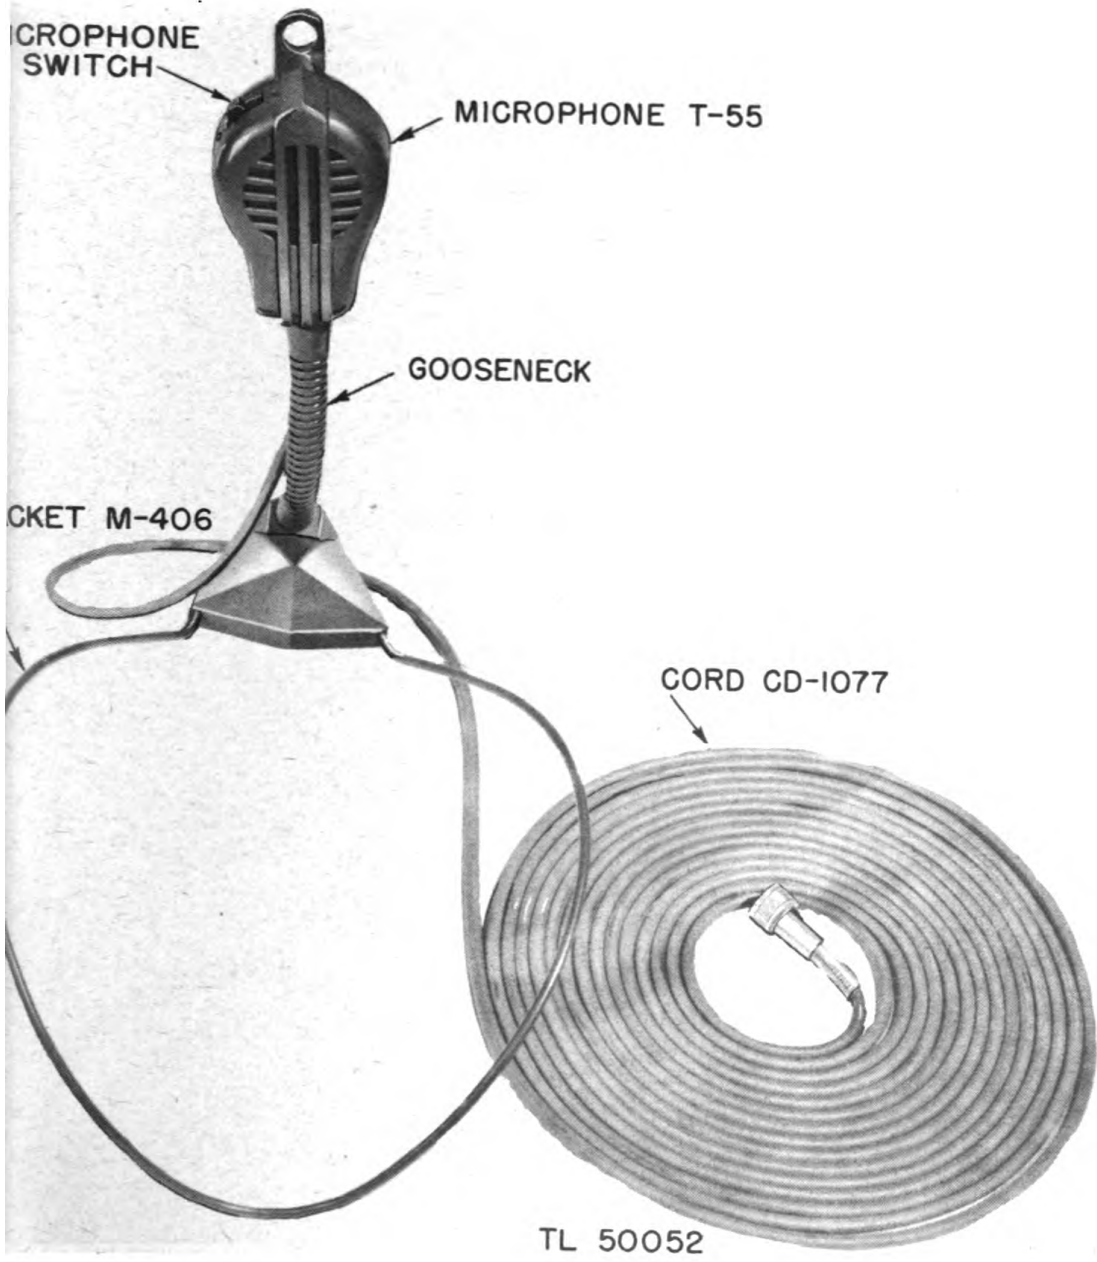

Figure 5. Microphone T-55, Cord CD-1077 and Bracket M-406
8. MICROPHONE T-55 WITH BRACKET M-406 ASSEMBLED (See figure 5).
16. CORD CD-1077, MICROPHONE CABLE (See figure 5).